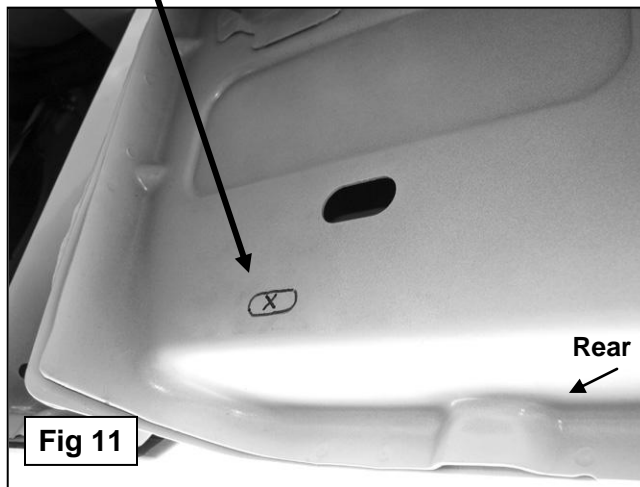
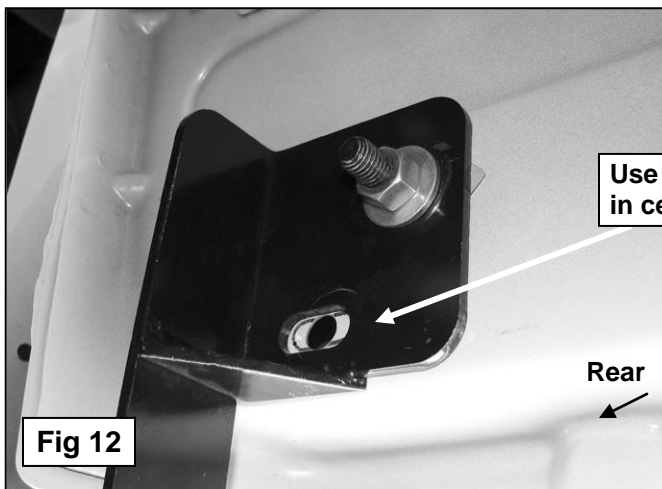
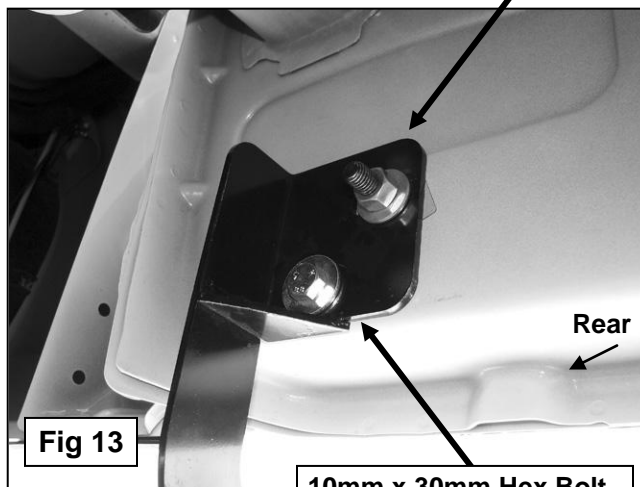

Fig 11
Fig 12
Fig 13
- Once **Step 6** has been completed, loosen the Hex Nut on the Bolt Plate and center the threaded end in the slot in the Bracket and the vehicle, (**Figures 8 & 10**). Trace the open, unused slot in the bracket mounting plate onto the body panel, (**Figure 10**). Remove the Rear Bracket and Bolt Plate, (**Figure 11**). Mark the center of the slot. Carefully drill the location with a 7/16" drill bit, (**Figure 12**). Reinstall the Bolt Plate and Bracket as previously described in **Steps 2 - 3 & 6**, (**Figure 13**). Tighten all hardware.